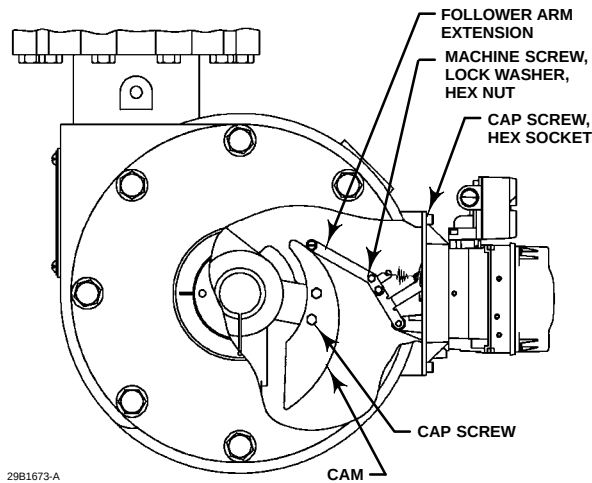

Figure 2-6. FIELDVUE DVC6020 SIS Digital Valve Controller with Long Feedback Arm and Follower Arm Extension Mounted on a Rotary Actuator
5. Larger size actuators may require a follower arm extension, as shown in figure 2-6. If required, the follower arm extension is included in the mounting kit. Follow the instructions included with the mounting kit to install the follower arm extension.